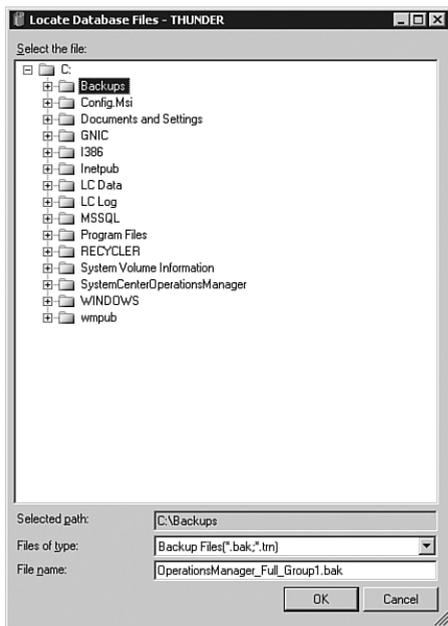

FIGURE 12.5 The backup device location screen.
3. Select Add under Destination. The wizard provides a default location of *%ProgramFiles%\Microsoft SQL Server\MSSQL.1\MSSQL\Backup*. To enter the location and filename where the backup will be stored, click on the button with the ellipses (...) and name the file *OperationsManager_Full_Group1.bak*. In this case, we are using a folder named *C:\Backups*, rather than the default folder. Figure 12.5 shows the location specified for the backup file.